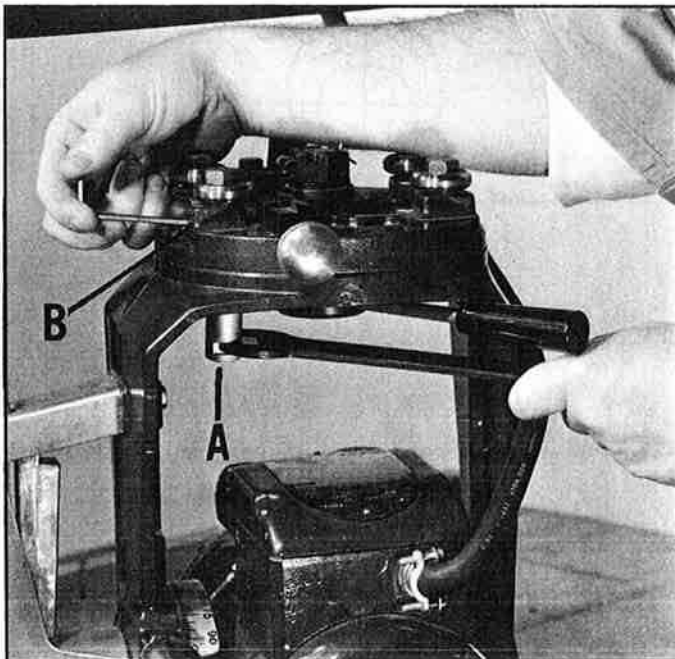

Fig. 34
2. To adjust, place special wrench (A) Fig. 34 over hexagon nut (located underneath the carriage) and loosen.
3. Loosen set screw (B) Fig. 34 to release lock action on eccentric shaft.
(For clarity Fig. 34 is shown with the cuttinghead removed. The adjustment should be made with the cuttinghead at the center of the track.)
5. Lock set screw (B) Fig. 34, and tighten hex jam nut with special wrench (A).